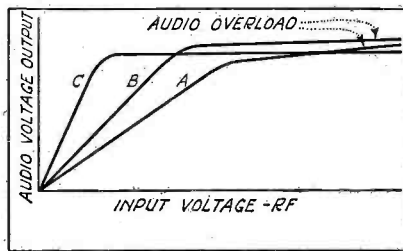

Fig. 5. Curve A is for maximum AVC control voltage, B for partial voltage, and C for delayed AVC
output is essentially constant for increasing inputs. This is illustrated in Fig. 5 in which curves (A) and (B) indicate results obtained with ordinary AVC and (C) with delayed AVC. There is one important advantage of delayed AVC and that is a better signal to receiver noise ratio for weak signals. It will be observed from Fig. 5 that for small inputs the signal output with delayed AVC is considerably greater than with ordinary AVC. Set noise is of course independent of the AVC circuit and will therefore be the same for all three of the curves of Fig. 5.